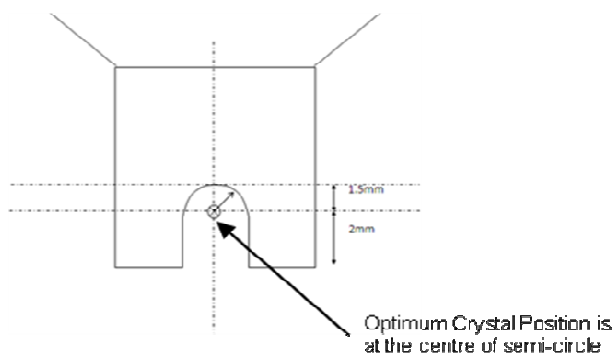

Figure 5 – Optimum crystal position
7. The crystal should be mounted to the vertical centre line of the N-HeliX, and at the optimum position as shown below in Figure 5.